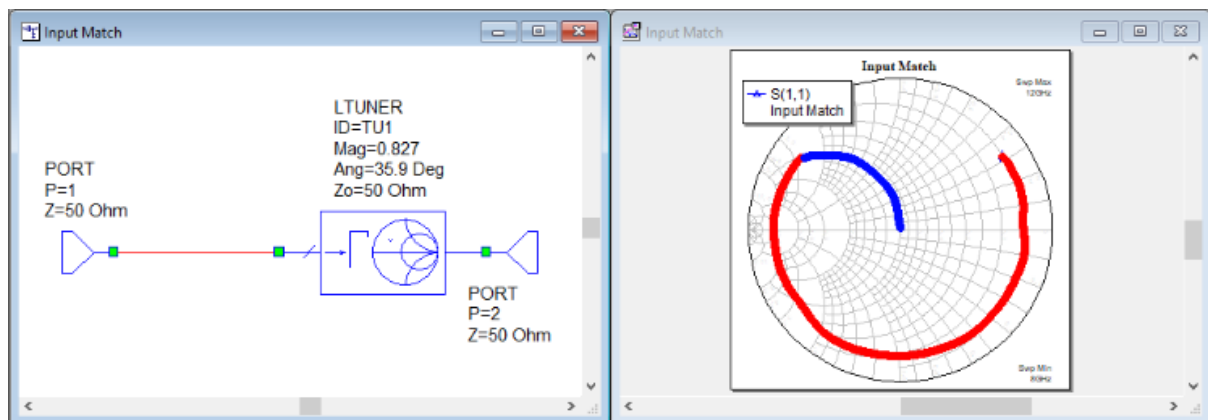
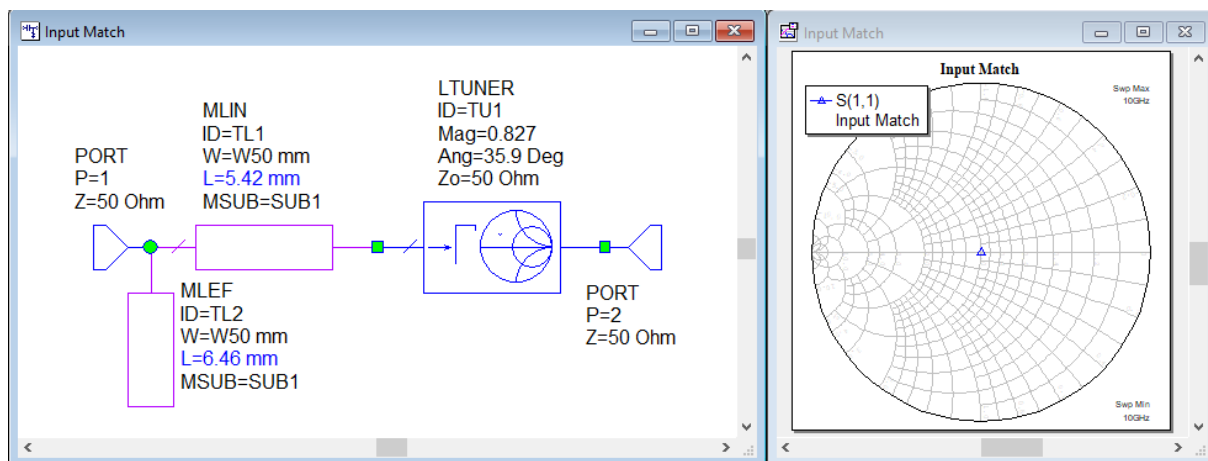

Fig. 4 Schematic with LTUNER with GM1\* reflection and Smith Chart with intended matching.
Fig. 5 Input matching circuit and resulting reflection coefficient.
- Create a new schematic Input Match, place the LTUNER in it and set its value to GM1\*. Connect the two ports as shown in Fig. 4.
- Using TUNE TOOL set TL1's length to transform  $S_{11}$  to the  $g = 1$  circle (red curve in the admittance Smith Chart in Fig. 4).
- Add element MLEF to Port 1 and set its length using TUNE TOOL to transform  $S_{11}$  to the Smith Chart's center (blue curve in Fig. 4). The final matching circuit is shown in Fig. 5.